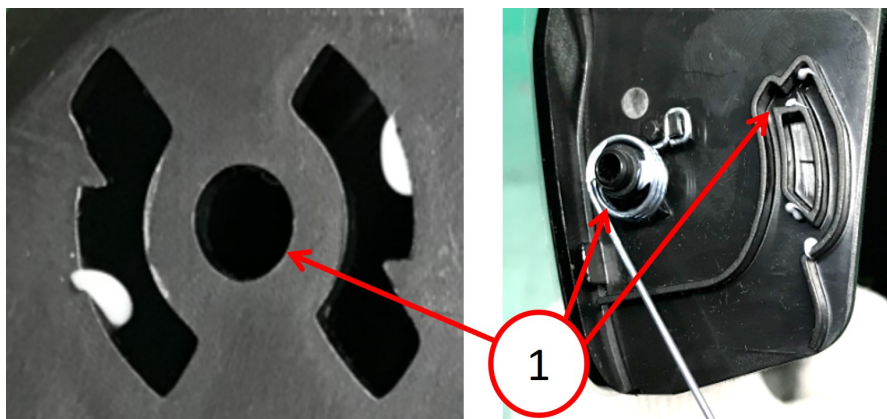

Fig. 3
5. Using Mopar lubricant P/N 04773427AB, grease the backplate latch hole, inside of spring and guide rail on the **new sunglass storage bin** (Fig. 3) .